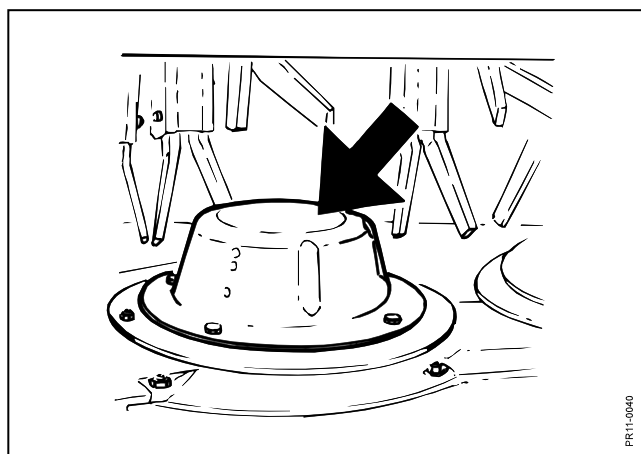

Fig. 3-10
**Fig. 3-10** The discs can be equipped with low flow hats to ensure that the crop is lifted away from the blades faster. This reduces risk of stripes and recutting.